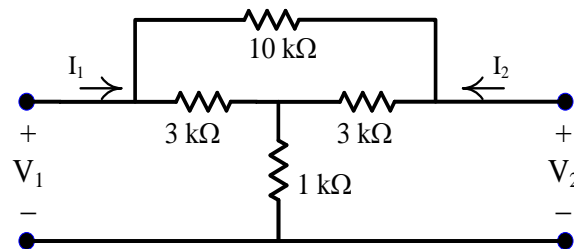

Figure 2: Two-Port Circuit Diagram
1. Build the circuit of Fig. 2 in *Multisim Electronics Workbench*.
5. Build the circuit given in Fig. 2 with the hardware components.
6. Follow identical steps to (2) and (3) above by applying a DC test voltage to the input and output ports alternatively, and measuring the relevant voltages and currents. Again, pay attention to the direction (and sign) of the currents